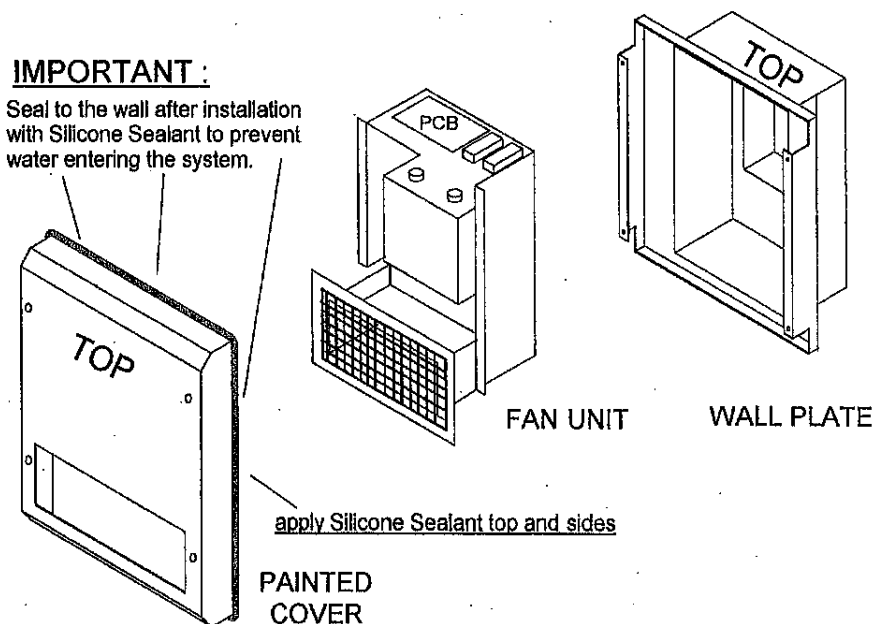

Fig.4
- 5.8 Re-attach the painted cover with the four screws and seal the painted cover to the wall all around with Silicone Sealant to prevent rain or moisture getting into the system. (See Fig. 4)